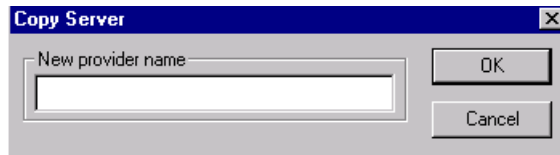

Figure 403. Copy Server Dialog
3. After the data provider to be copied is stopped, right-click again and choose **Copy Provider** from the context menu. This displays a dialog for specifying the unique name for the new data provider, Figure 403.